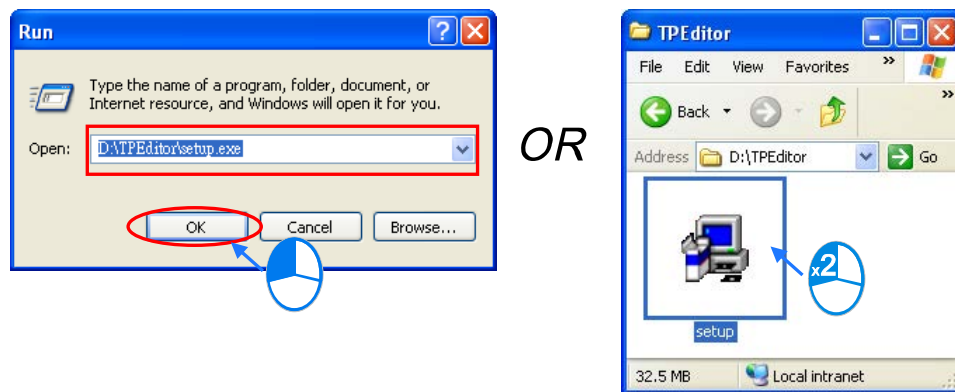

Figure 1-1 Installation
- (1) Start a Windows 2000/NT/Me/XP/Vista/7/8 operating system. The users have to log on as an administrator.
- (2) Put a TPEditor CD in the CD-ROM drive, or download the installation program from the Delta official website <http://www.deltaww.com>. (Before the installation program downloaded from the website is installed, it has to be decompressed.)
- (3) Click **Start**, and then click **Run...** to open the **Run** window. Specify a path which denotes the installation file in the **Open** box, and then click **OK**. The users can also double-click the installation file to execute the installation program. Please see Figure 1-1.